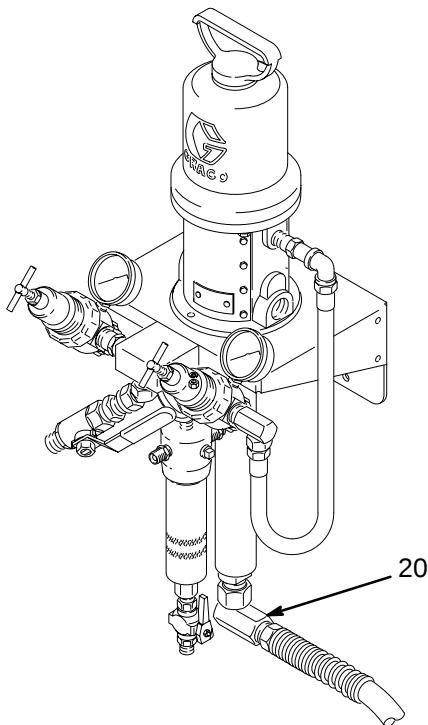

Fig. 2
3. Thread the swivel elbow (20) onto the pump intake valve. Tighten securely. See Fig. 2.